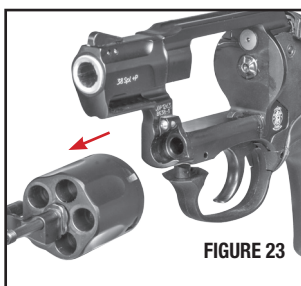

FIGURE 23
- Push the thumbpiece forward to release the cylinder and then tip the cylinder to the left, out of the frame. Pull the cylinder / yoke assembly forward and out of the frame (FIGURE 23).